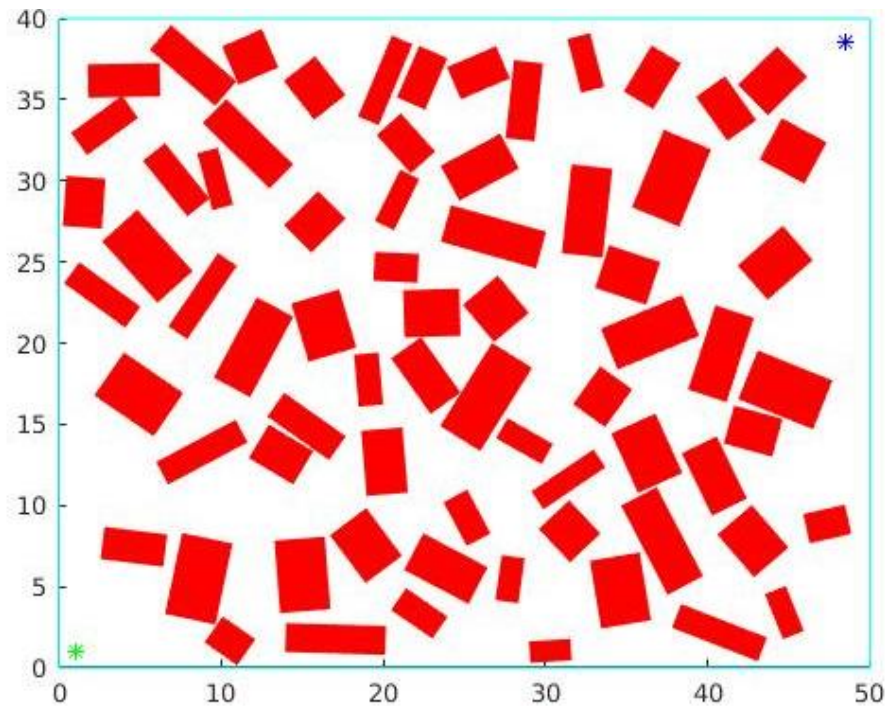

Figure 3: Environment for Question 2.
- a. For the environment in Figure 3 which is generated using planningEnv.m, find the shortest path from start to end using a visibility graph. Describe how the algorithm